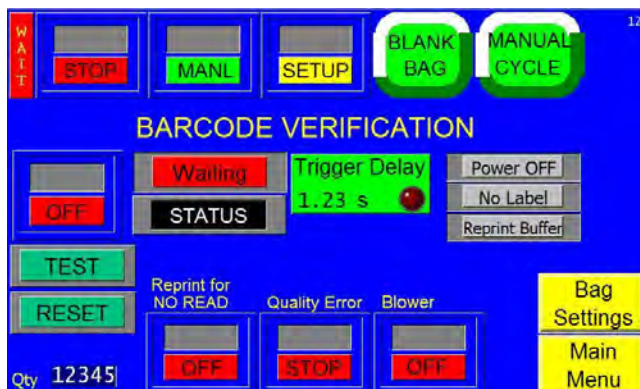

Figure 3-30
a) In Auto mode 'Label Reprint' is turned on, next bag is indexed automatically and same label is printed a second time. If 'Good Read', 'Label Reprint' is turned off and operation continues. If 'No Read', Bagger switches to Manual mode and 'No Read' warning screen is displayed. See Figure 3-30.